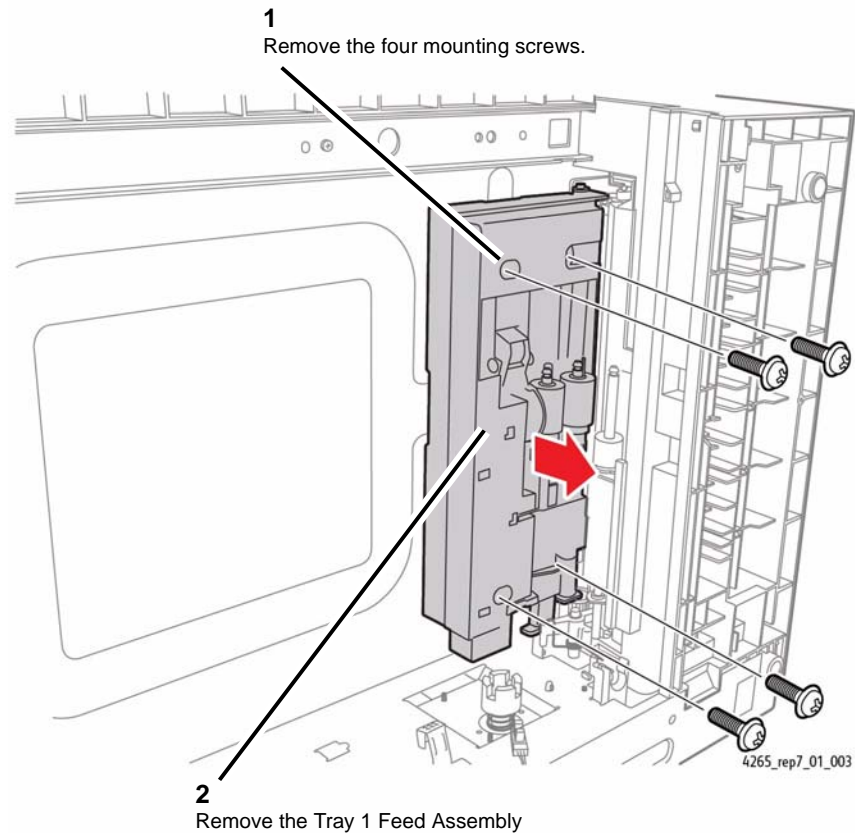

Figure 3 Removing the Tray 1 Feed Assembly
9. Prepare to remove the Tray 1 Feed Assembly (Figure 3).